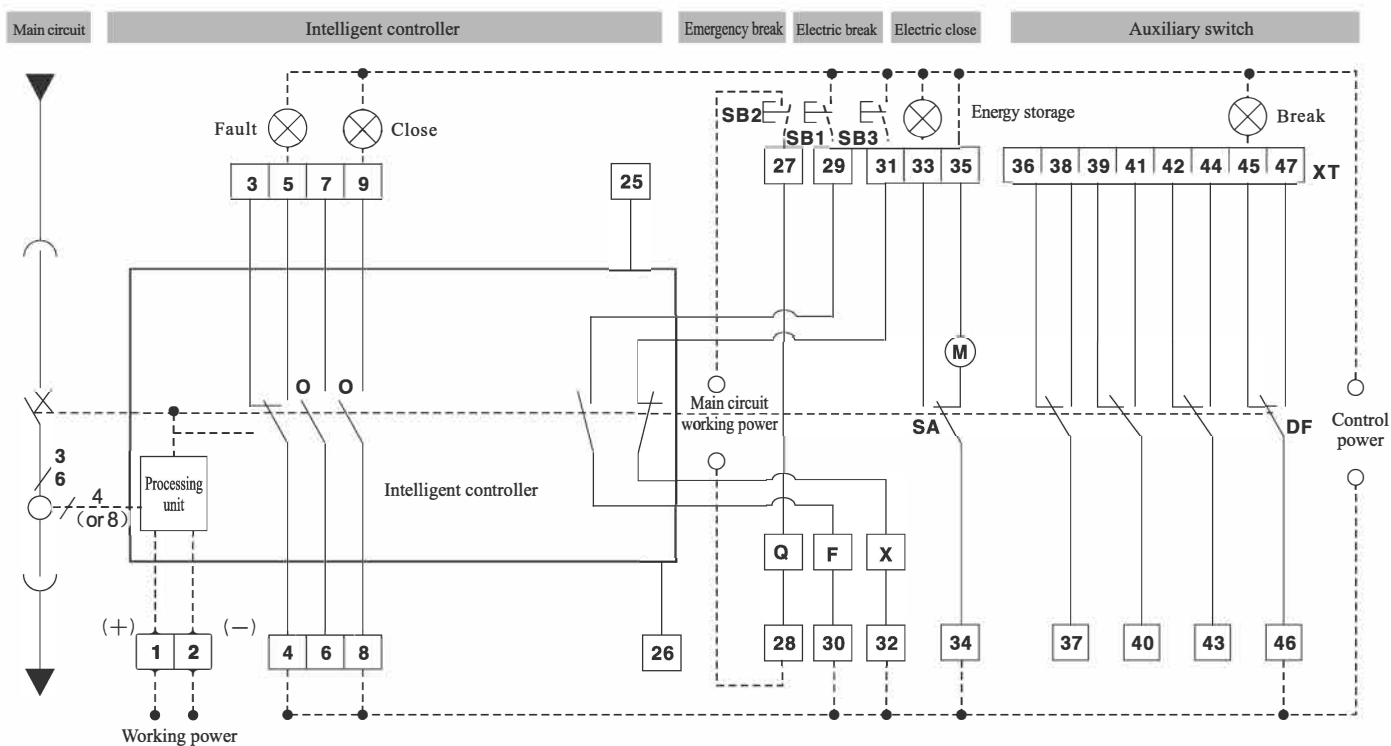

Figure 4
7. Secondary circuit wiring diagram in figure 4,5,6,7